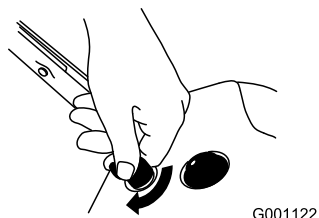

Figure 14
1. Turn the ignition key clockwise to the On position (Figure 14).